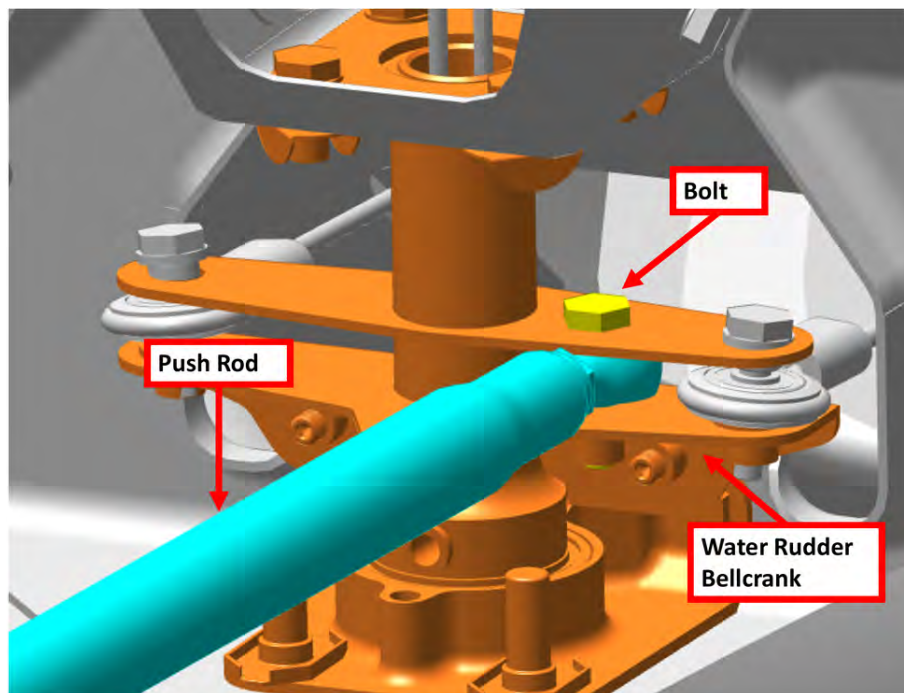

FIGURE 10-62
17. Adjust rudder push tube length to set the neutral position of the rudder to be $1^{\circ} \pm 1^{\circ}$ trailing edge right. This must be done by removing the AN3C7A bolt that secures the FWD side of the push rod and adjusting the rod end. See Figure 10-62.